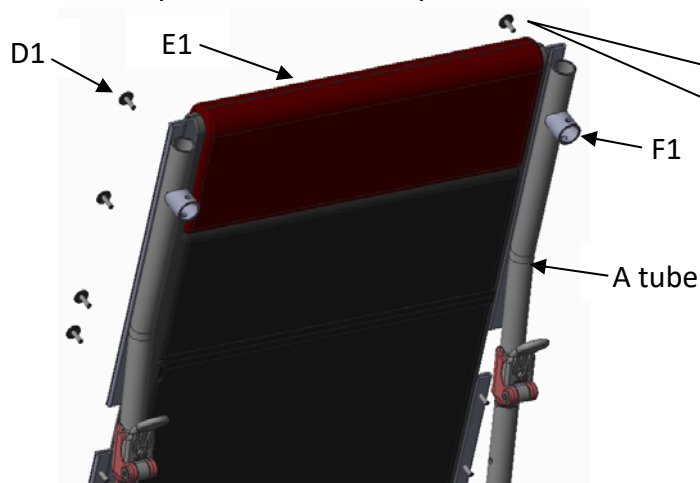

Fig. 1-7
2.1.6 Use Phillips screwdriver to loosen the part D1 and take apart the part D1 (only the part D1 on the A tube is required to remove). (See Figs. 1-7,1-8)